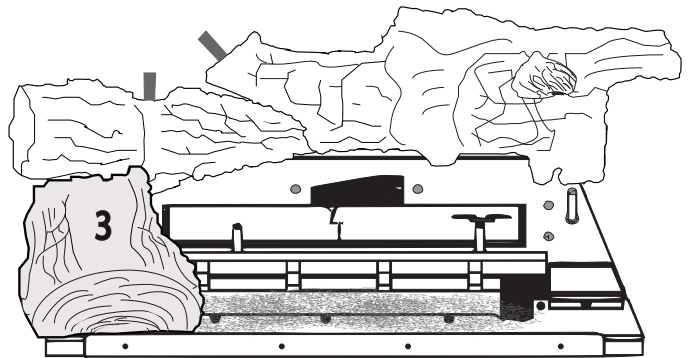

Figure 22 - Log #3 Placement
4. Place Log #3 in the lower left area of the burner assembly with the cut out wrapping around the grate and the front of the log up against the front lip of the burner assembly. See Figure 22.